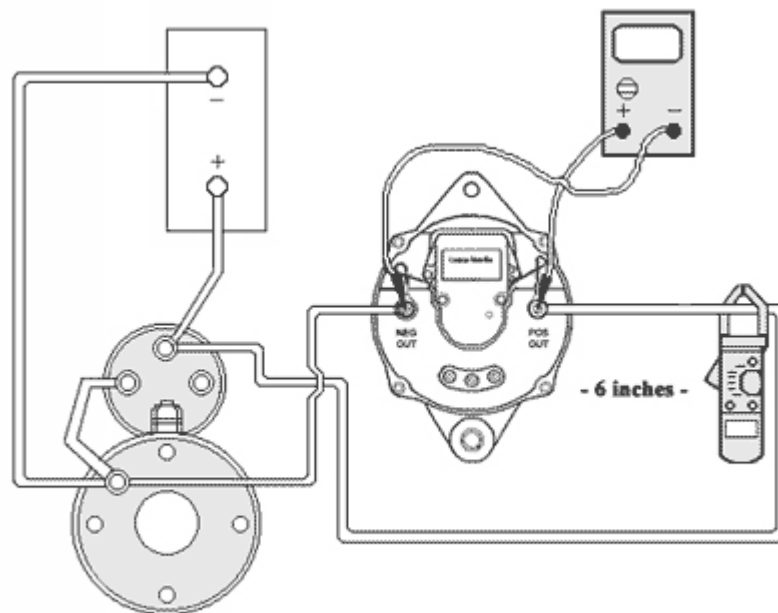

Figure 13: Alternator performance test under load
**Alternator Performance Test.** Connect voltmeter to alternator terminals and ammeter to alternator's positive output cable, per Figure 13. Make sure ammeter is at least 6 inches (15 cm) away from alternator to eliminate the possibility of faulty readings. Make sure voltage is present at alternator's output terminals. Start engine and run it at 1500 RPM's (operating RPM). Check that all vehicle loads are turned off and reading on ammeter is less than 20 amps. If ammeter reading is greater than 20 amps double check that all vehicle loads are turned off and that batteries are fully charged. Record voltage on voltmeter. Reading should be between 13.8 & 14.4 v for a 12 volt system, 27.8 & 28.4 v for 24 volt systems. If the voltage is not within these ranges then try adjusting the regulator if available. If the regulator can not be adjusted alternator is defective.
**Alternator Performance Test Under Load.** Keep engine running at 1500 RPM (operating RPM) and meters are connected per Figure 13. Turn on vehicle loads until 75% of the